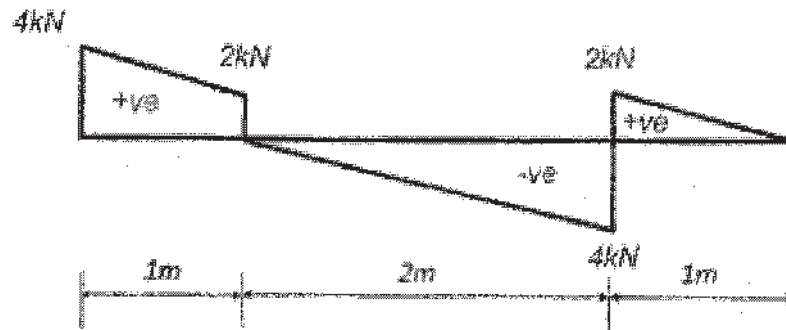

Fig. 4
Q. 6. Draw the Bending Moment Diagram of a beam from the Shear Force Diagram shown in the Fig. 4. 5